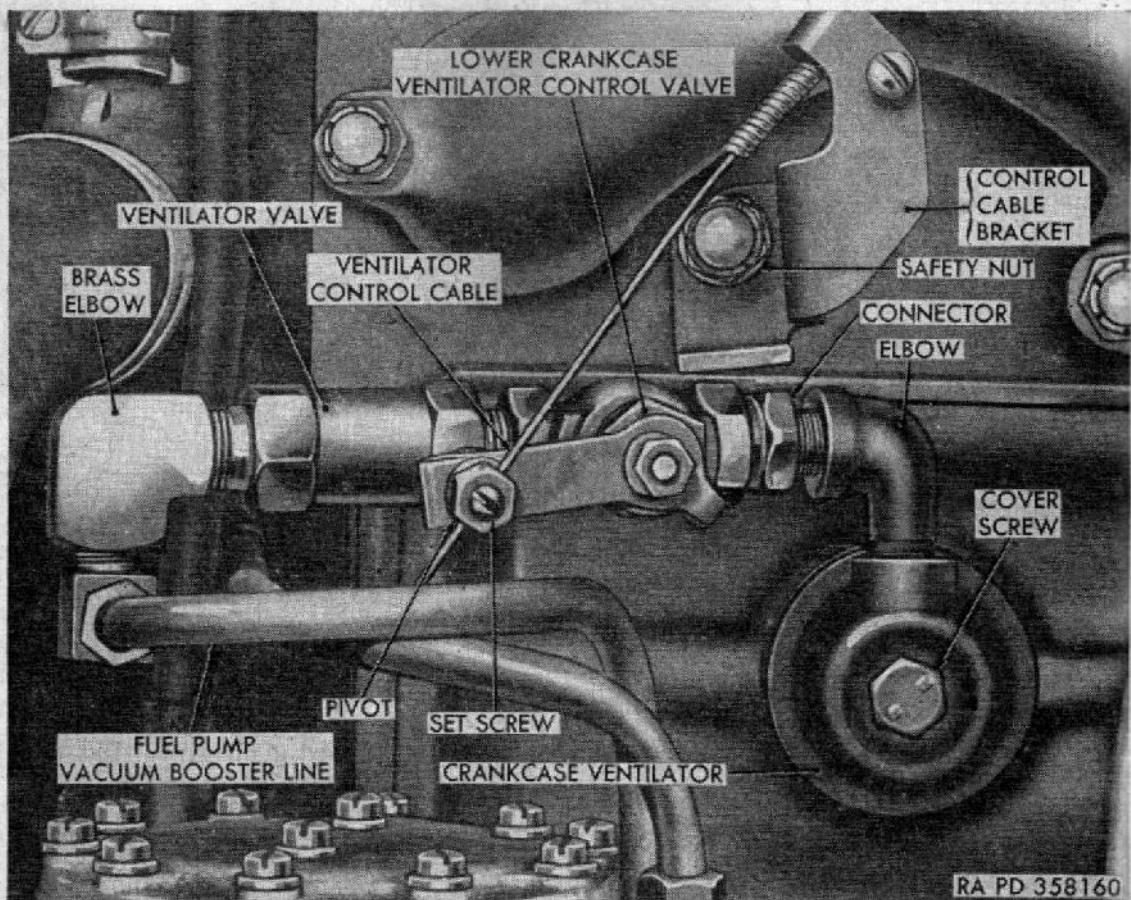

Figure 33. Lower crankcase ventilator control valve and crankcase ventilator installed.
(1) *Remove exhaust valve cover.* Disconnect ventilator control cable (fig. 33) from lower crankcase ventilator control valve. Disconnect fuel pump vacuum booster lines from elbow on ventilator valve. Remove cover screw securing crankcase ventilator and exhaust valve cover and remove crankcase ventilator and crankcase ventilator control valve with attached parts. Unhook accelerator return spring from throttle control lower bellcrank (fig. 25). Remove cotter
cover screw, tightening securely. Position crankcase ventilator and lower crankcase ventilator control valve (fig. 33) in position on front of exhaust valve cover and install cover screw. Tighten securely. Connect fuel pump vacuum booster lines (fig. 33) to both sides of elbow on ventilator valve. Place flat washer and throttle control lower bellcrank on rear cover screw and secure with another flat washer and cotter pin. Install throttle control relay rod (fig. 25) on throttle control upper and lower bellcrank and secure with cotter pins at each end of throttle control relay rod. Hook accelerator return spring to throttle control lower bellcrank (fig. 25). Clip windshield wiper vacuum line to clip on exhaust valve cover.
- (2) *Installation.*
3. *Lower Crankcase Ventilator Control Valve.* (fig. 33)